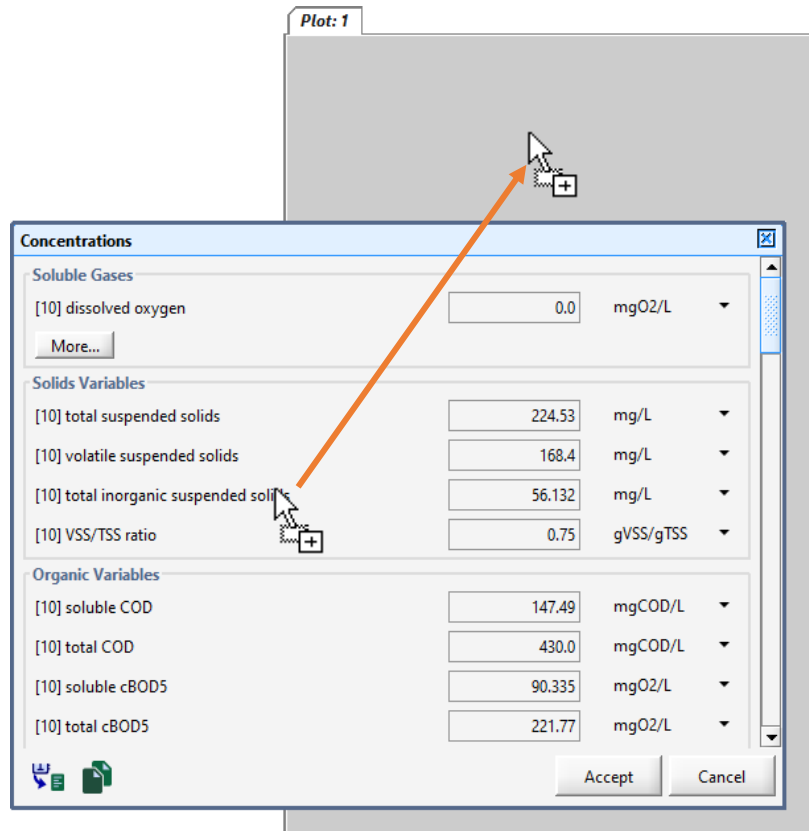

Figure 7-14 – Dragging Variable to Output Display
- i. an available blank area of the output tab (**Figure 7-14**) to create a new display. It produces an X-Y graph by default, but this can be changed at a later date (see **Output Properties** section).